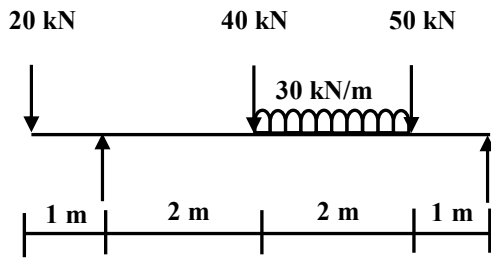

Figure-3 Q-b (a) OR
- Q.3 (a)** Draw shear force and bending moment diagram for a beam given in **figure-3**. **07**